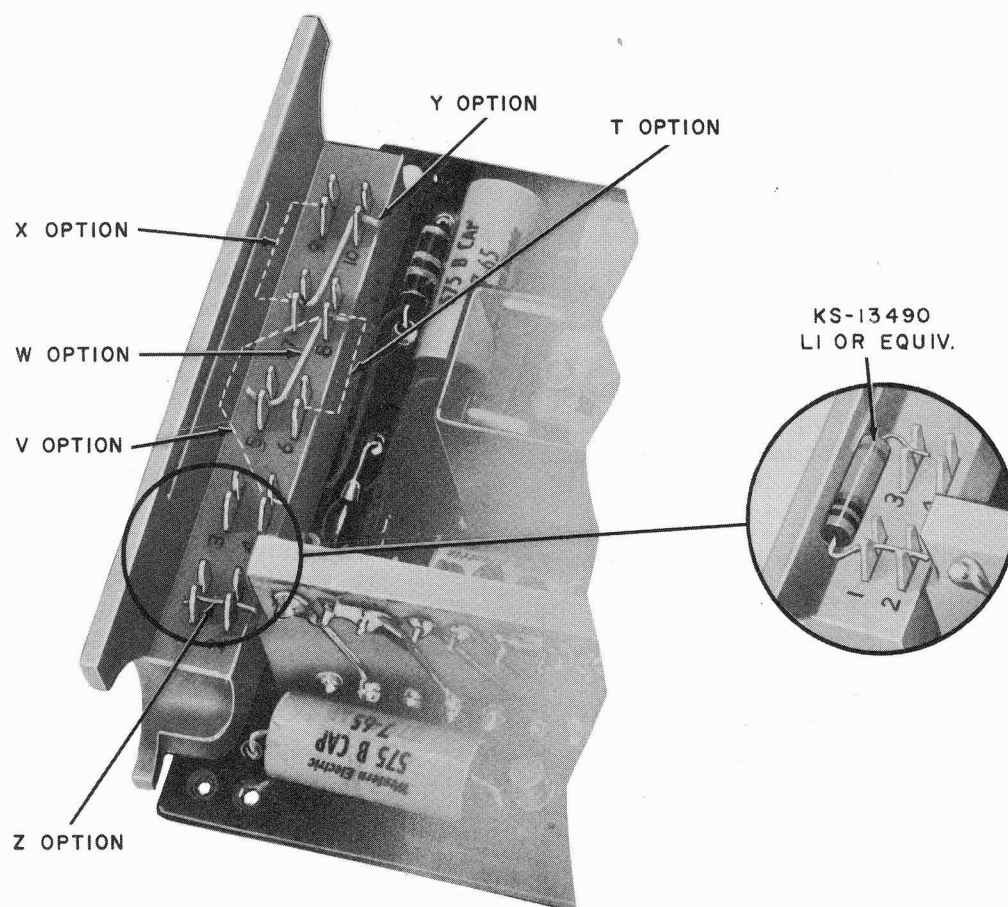

Fig. 6 — Option Block — Handle, 400D KTU
- (1) Determine in seconds, the existing short time-out interval. Do this by dialing one line from another line at the same station, and counting the number of flashes on the called line lamp after hanging up on the calling line. Count one second for each flash of the lamp.
- (2) Select a resistor from Table B which will provide the time-out interval desired. The resistor selected will reduce the original time-out interval to the fractional value shown.
- (3) Remove the Z option strapping.
- (4) Connect one lead of the selected resistor to terminal 3 on the option block. Connect the other lead to *both* terminals 1 and 2 (Fig. 6).